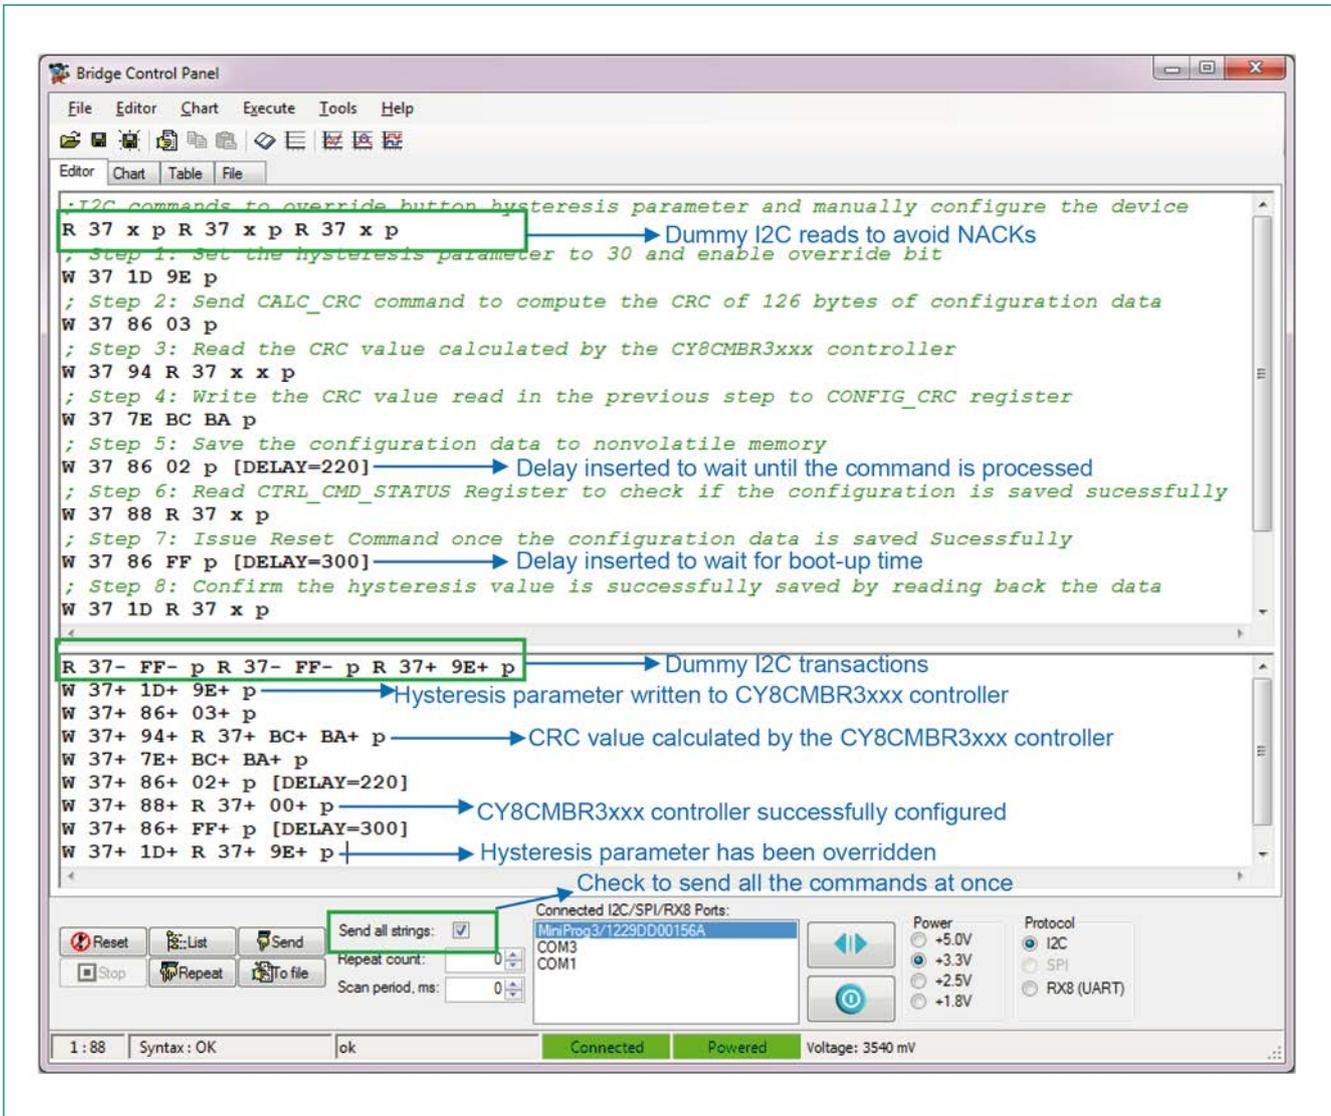

Figure 5-25 Calculating the CRC Using CY8CMBR3xxx Controller
- Use the CY8CMBR3xxx controller to calculate the CRC value: The CY8CMBR3xxx controller calculates the checksum of the configuration data when a CMD_OP_CODE value of ‘3’ is written to the CTRL_CMD (0x86) register, as shown in Figure 5-25. The calculated CRC value will be stored in the CALC_CRC (0x94) register after 220 ms. The user has to read the CRC value from the CALC_CRC (0x94) register and manually write it to the CONFIG_CRC (0x7E) register. This method should be used only during testing and debugging the CY8CMBR3xxx controller. For configuring the CY8CMBR3xxx controller in production, use the CRC API provided with the Host APIs.